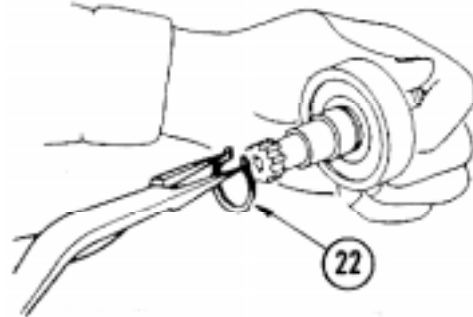

Figure 4.
10. Remove shaft (21) with ball bearing (23) and snap ring (22) from front body (25) by striking splined end of shaft lightly with a brass hammer.
11. Remove snap ring (22) with snap ring pliers as shown in Figure 4.
18. Using an arbor press, press-fit oil seal (24) in front body (25).
19. Using a press, press-fit ball bearing (23) onto shaft (21).
20. Install snap ring (22) on shaft (21) with snap ring pliers as shown in Figure 4.